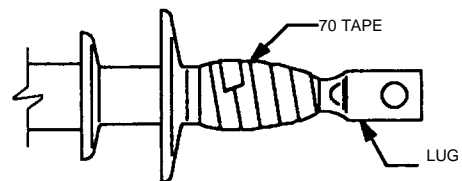

Figure 7
2. Wrap 4 half-lapped layers of Scotch™ 70 Silicone Rubber Tape over the lug and onto the insulator for 1" (25 mm) (Figure 7). **TAPING HINT:** Apply first 3 layers with moderate tension. Apply last lap with zero or very little tension.